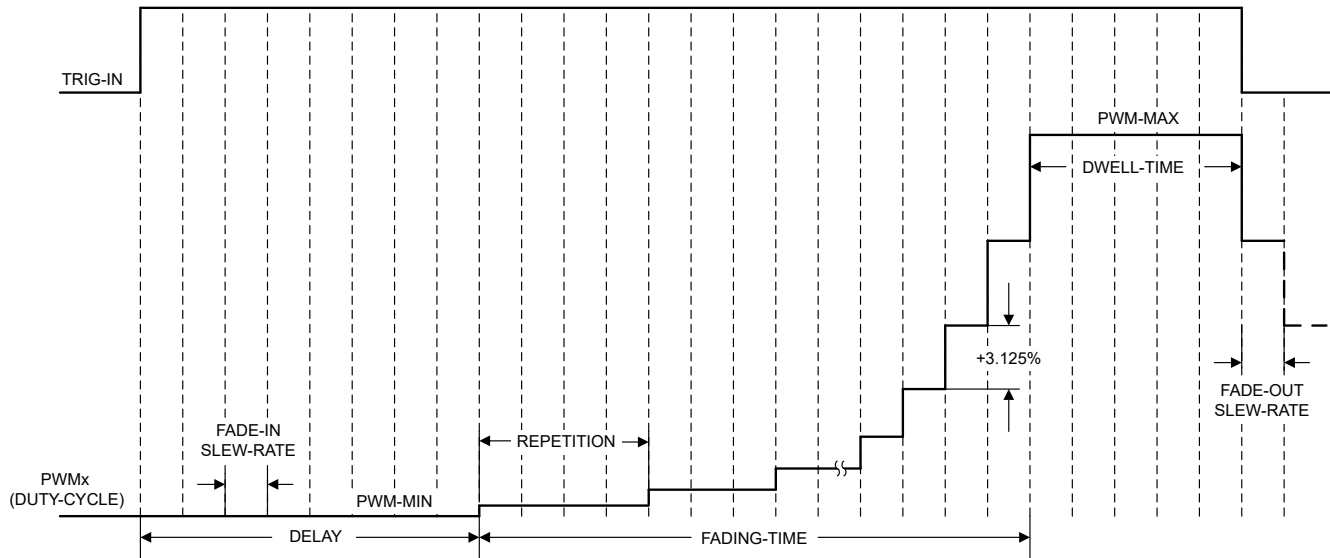

図 7-6. Fade-in Fade-Out Detailed Timing Diagram
By default the DAC43901-Q1 is configured in the PWM fade-in fade-out with the default settings as shown in 表 7-4. To change settings in the SRAM, write the SRAM address to the SRAM-ADDR register followed by a write to the SRAM-DATA register with the data. The register locations can be directly written with a single I²C or SPI sequence. In fade-in fade-out mode or animation mode, the basic setting is the fade-in or fade-out SLEW_RATE as depicted in 図 7-6. The SLEW_RATE defines the timing resolution of the application. When the SLEW_RATE is multiplied with the number of steps in the fading, the fading time is obtained. The SLEW_RATE can be calculated using 式 4. In logarithmic fading, the number of steps are nonlinear and also depend on the start and end duty-cycle settings. The total fading time is calculated using 式 5 and 表 7-5. The fade-in can be started after a delay, calculated per 式 7. CH0-DELAY defines the fade-in delay for PWM0, and COM-DELAY defines the fade-in delay for PWM1. The delay applies even when the fade-in is disabled by writing 0 for FADE-IN SLEW_RATE. In this case, a predefined delay setting of 256 is considered. There is no delay for fade-out.
- t_{FADE} is the total fading (fade-in or fade-out) time as depicted in 図 7-6.